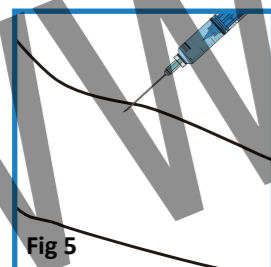

Fig 5
- Expel all air bubbles within the barrel of the syringe and then perform the injection. Inject slowly (Fig 5).